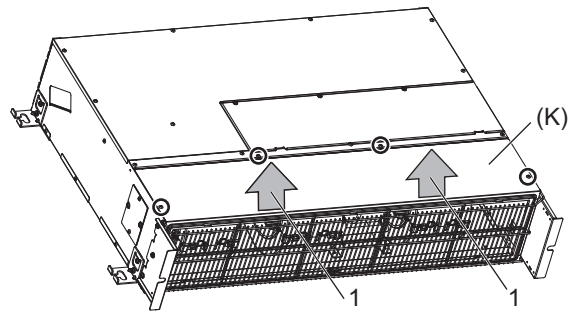

Fig.16
- (1) Push down the tab on the filter, and pull out the filter in the direction of the arrow 1 (Fig.16).
- (2) Remove the control box cover (A) with procedure [1]-2.
- (3) Remove the front plate (D), (E) with procedure [1]-4.
- (4) Remove the fixing screws on the control box (F) with procedure [1]-4.
- (5) Remove the front plate (K) to remove it. (Fig.16)